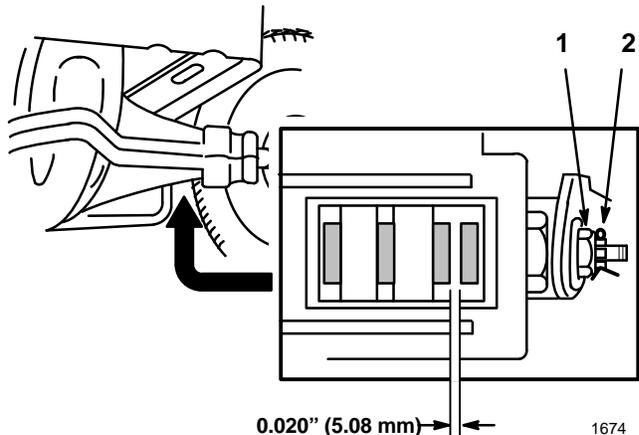

Figure 17
The brake is on the right side of the rear axle, inside the rear tire (Fig. 17). If the parking brake does not hold securely, an adjustment is required.
3. To adjust the brake remove the cotter pin and loosen the brake adjusting nut slightly (Fig. 17).
4. Carefully insert a 0.020” (5.08 mm) feeler gauge between the two outer brake pads (Fig. 17).